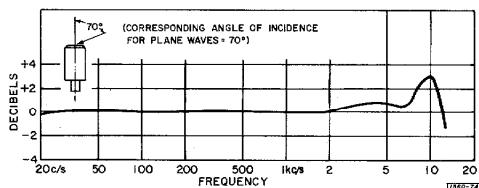

Figure 2.
1. a frequency characteristic (see Figure 2) carefully controlled in manufacture to give flat response to sounds of random incidence from 20 cps to 12 kc,